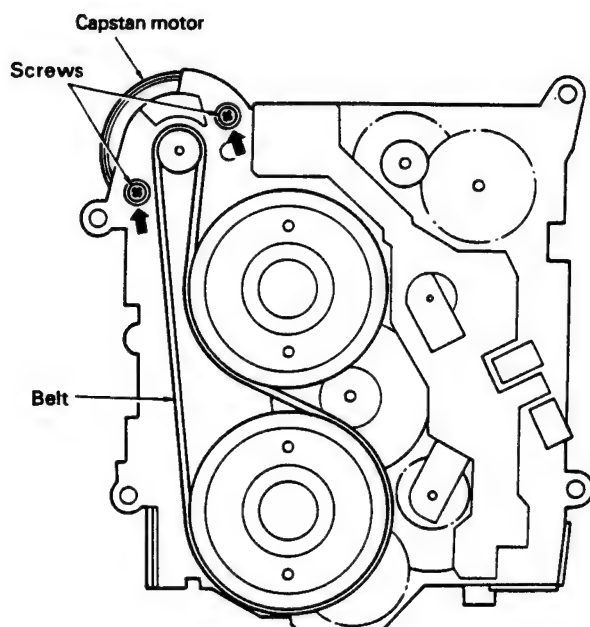

Fig. 2
2. The belt in Fig. 2 can be replaced. (Be sure that the belt is not greased and not twisted.)
3. To replace the capstan motor, remove the two screws shown in Fig. 2.